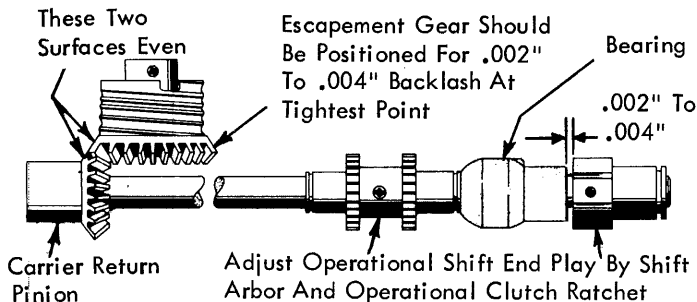

FIGURE 154. Gear Mesh And Operational Shaft Adjustment
- a. Adjust the operational shaft laterally so that the crown surfaces of the escapement cord drum gear and the carrier return pinion are even (Fig. 154). On the 11 inch machines, the position of the operational shaft is controlled by the operational cam ratchet and the shift clutch arbor. On long carriage machines the position is controlled by a
- b. The escapement cord drum gear should be adjusted forward or back to obtain .002" to .004" backlash at the point of tightest mesh with the carrier return pinion. Be sure that no binds exist throughout the travel of the carrier (Fig. 154).